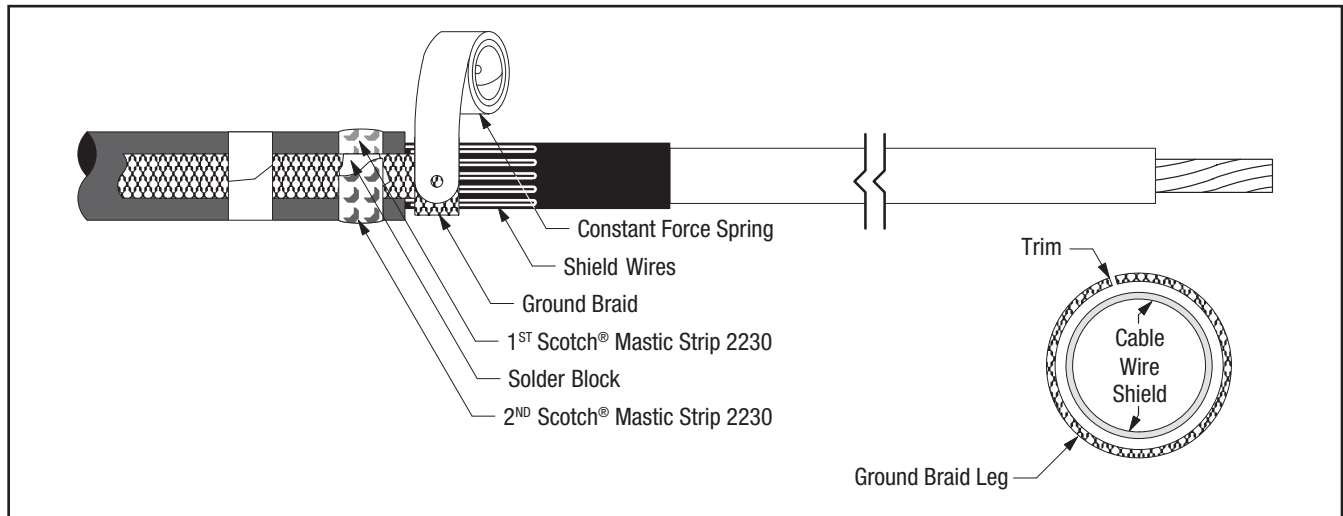

Figure 12
- 8.3 Wrap ground braid around cable shield wires one complete wrap, trim excess to prevent overlap and secure in place with constant force spring. Wrap spring in same direction as ground braid (Figure 12). Cinch (tighten) the spring after wrapping the final winding.
- 8.4 Select second Scotch® Mastic Strip 2230 from kit and remove white release liners. Apply a second SINGLE WRAP of mastic over solder block on ground braid and previously applied mastic (Figure 12). Cut off excess.